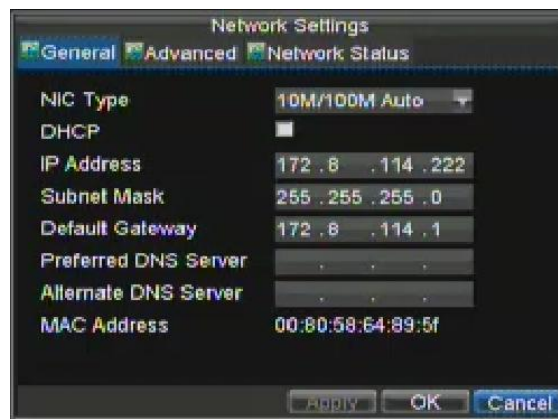

Figure 1. Network Settings Menu
1. Enter the Network Settings menu, shown in Figure 1 by clicking Menu > Setting > Network.